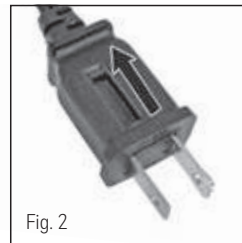

Fig. 2
- Carefully remove the blown fuse and snap a new fuse into place. To Reduce the Risk of Fire, replace fuse only with 2.5 Amp, 125 volt fuse. Fully close the fuse door by sliding back into place. (Fig. 2) Discard the blown fuse. The plug should now be ready for normal use.